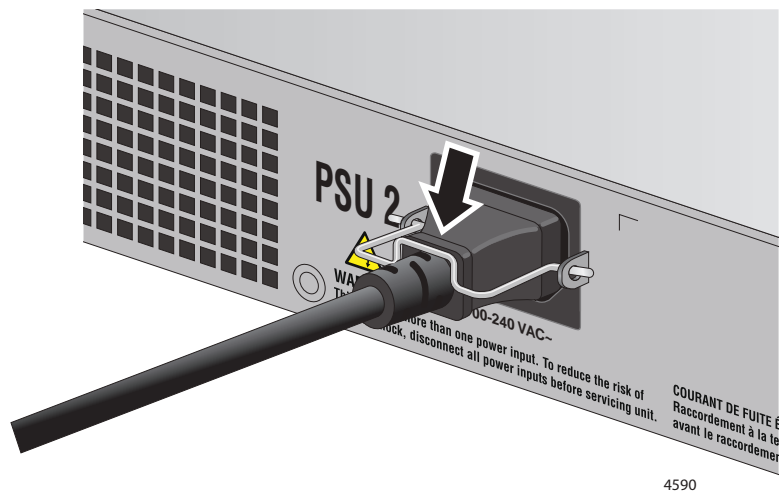

Figure 39. Lowering the Power Cord Retaining Clips
3. Lower the power cord retaining clips to secure the cords to the switch. Refer to Figure 39.